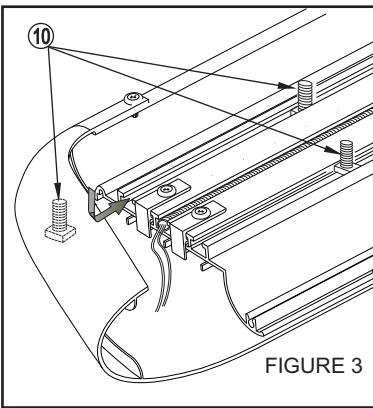

FIGURE 3
- STEP 4. Insert square head bolts as shown (4 per slot, 8 per board). SEE FIGURES 3 AND 4. NOTE: For lighted boards, run wiring harness prior to attaching board to brackets (refer to Step 4). Run longer wire harness on passenger side.
HINT: Molded Step Boards: For longevity, check rubber seals before installation. Rubber grommets around red and blue wires going into rear sockets, should be inserted and recessed about 1/4". NOTE: Remove bulbs and apply white grease into sockets and replace bulbs. Apply RTV Silicone where lights go into socket. Install lights and run wire loom as shown. SEE FIGURE 4. For Sure-Grip Running Boards, run wire loom down center as shown. SEE FIGURE 3.